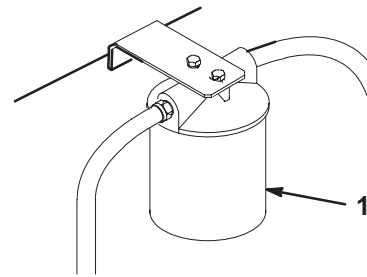

Figure 46
3. Place drain pan under filter, remove the old filter and wipe the filter adapter gasket surface clean (Fig. 46).